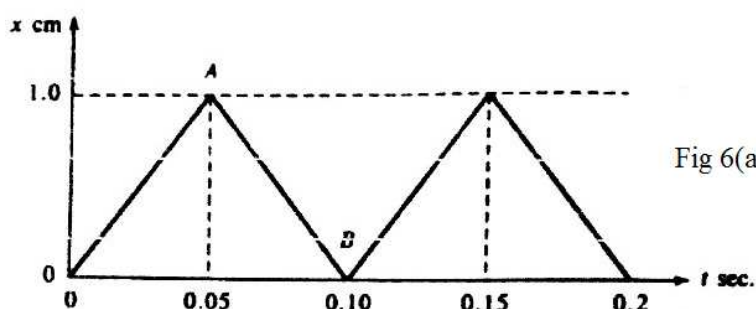

Fig 6(a)
- 6a. A periodic motion observed on oscilloscope is as shown in Fig. 6(a). Represent this motion by a harmonic series.